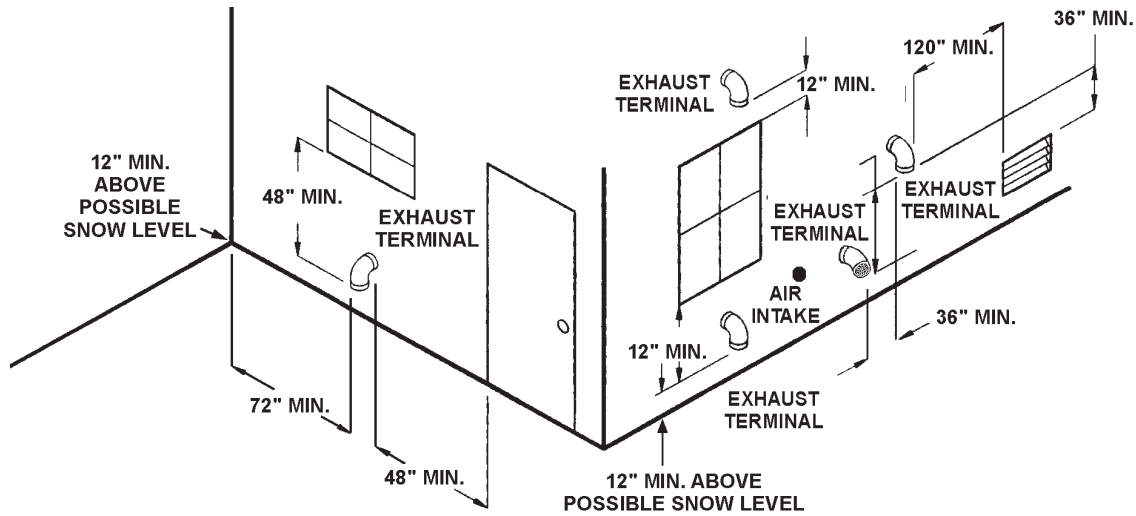

FIGURE 14. VENT TERMINATIONS AND INSTALLATION CLEARANCES
1. The exhaust and intake air termination must be a minimum of 12 inches above anticipated snow or grade level which ever is higher, see Figure 14.